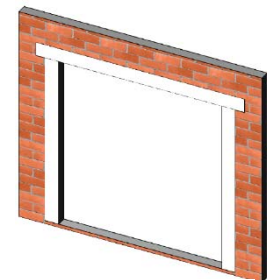

Figure 38:
3. Finally, at the head, embed the flashing into the sealant on the mounting flange and fasten into place. The flashing paper should be cut sufficiently long enough to extend past the flashing paper at each jamb by at least 3 in (Figure 38).